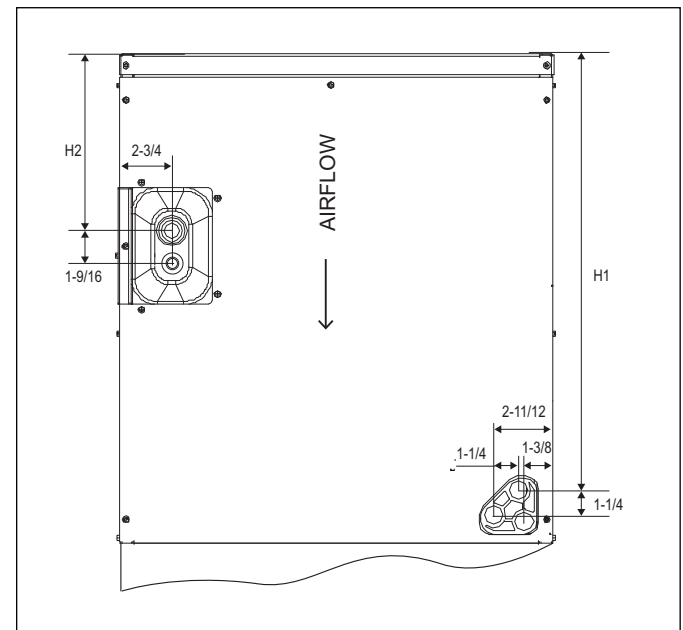
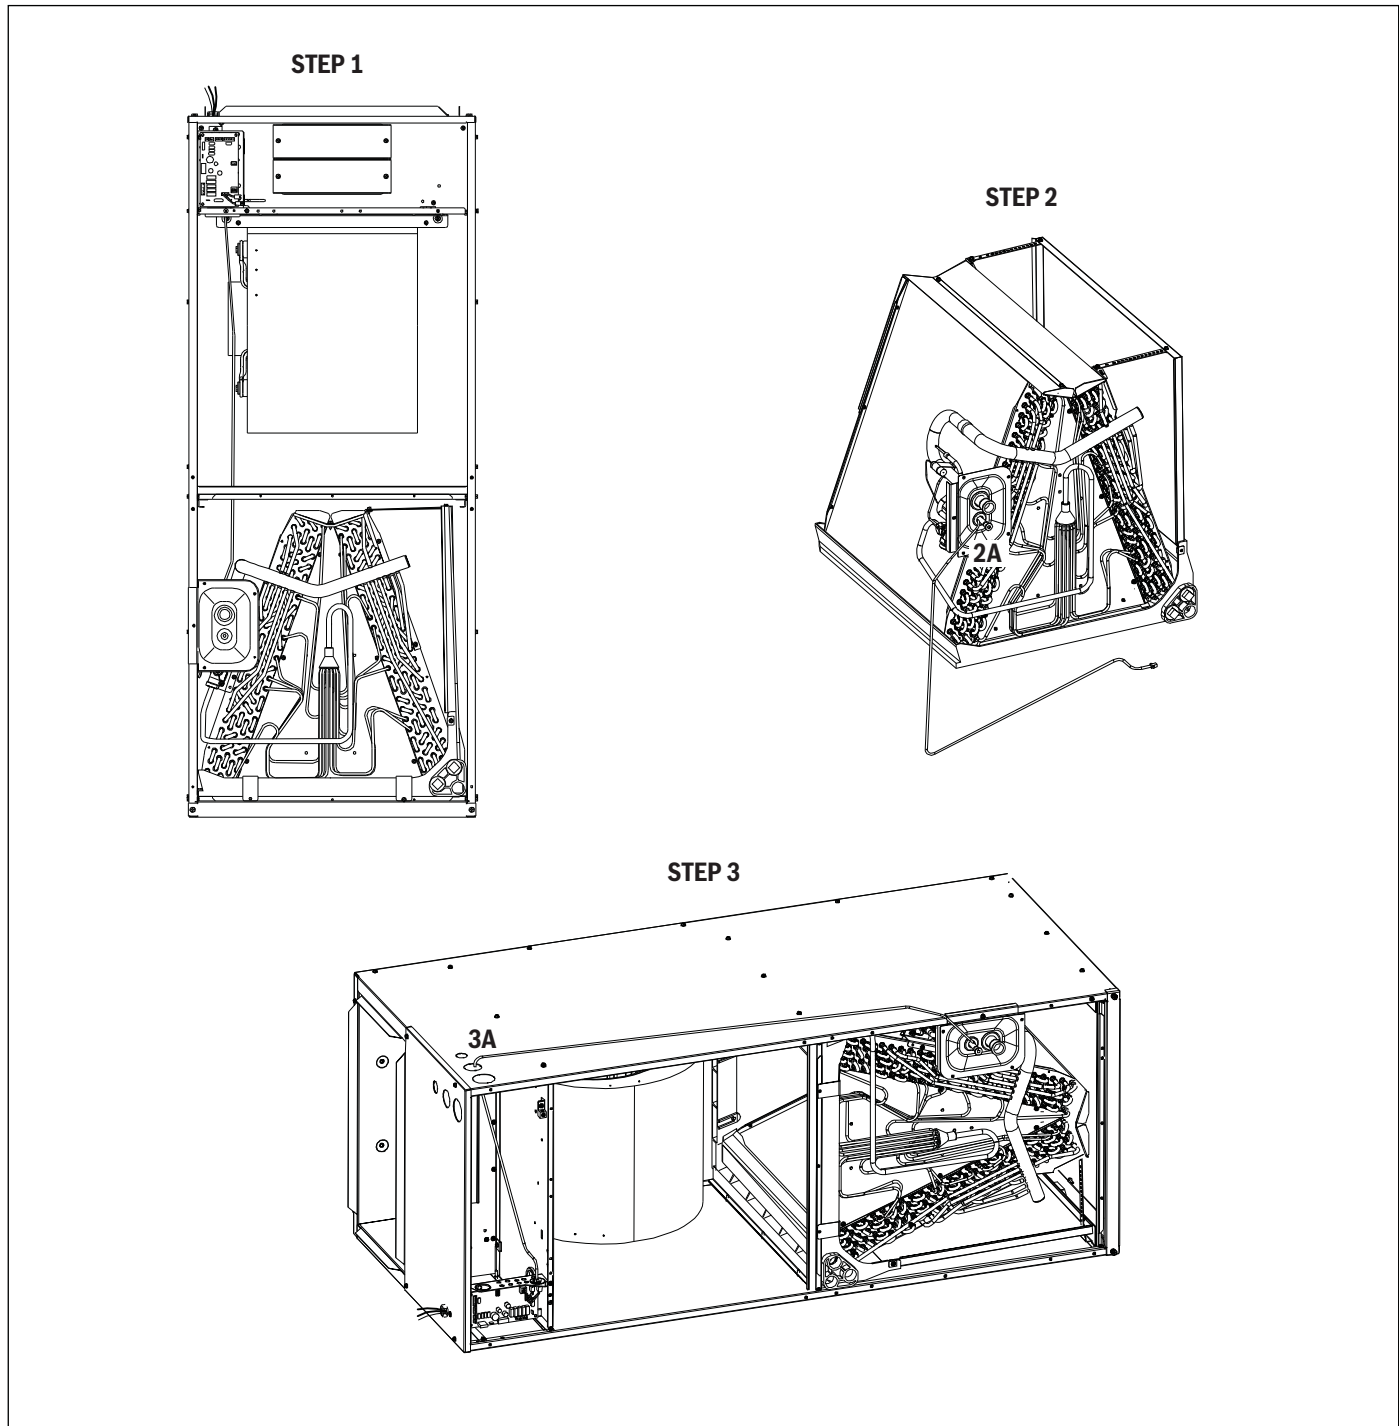

Figure 10 Dimensions For Air Handler (Coil Section)
Figure 11 Vertical Downflow & Horizontal Left Applications Conversion
A vertical upflow unit may be converted to vertical downflow. Remove the coil access panel and indoor coil and reinstall 180° from original position. See Figure 10 and Figure 11.
A vertical upflow unit may be converted to horizontal left by removing indoor coil assembly and reinstalling coil as shown for left hand air supply. See Figure 11.
- ▶ Reinstall the indoor coil 180° from original position. Ensure the retaining channel is fully engaged with the coil rail. See Figures 11 and 12.
1. Remove the screws and front panel and disconnect the T2 sensor wire's molex plug from the board (Figure 10, Step 1).
2. Pull out the coil with the sensor wire attached (do not disconnect the T2 sensor from the liquid pipe on the A coil). Pull the sensor wire through the liquid line hole in the cabinet cover (see 2A on Figure 10, Step 2).
3. Replace the coil in the correct orientation and secure in place. Remove the knockout (labeled 3A in Figure 10, Step 3) in the side of the cabinet, and add the rubber grommet from the included accessory bag. Connect the molex plug end of the sensor wire to the control board (insert wire through the knockout in the cabinet). (Figure 10, Step 3).